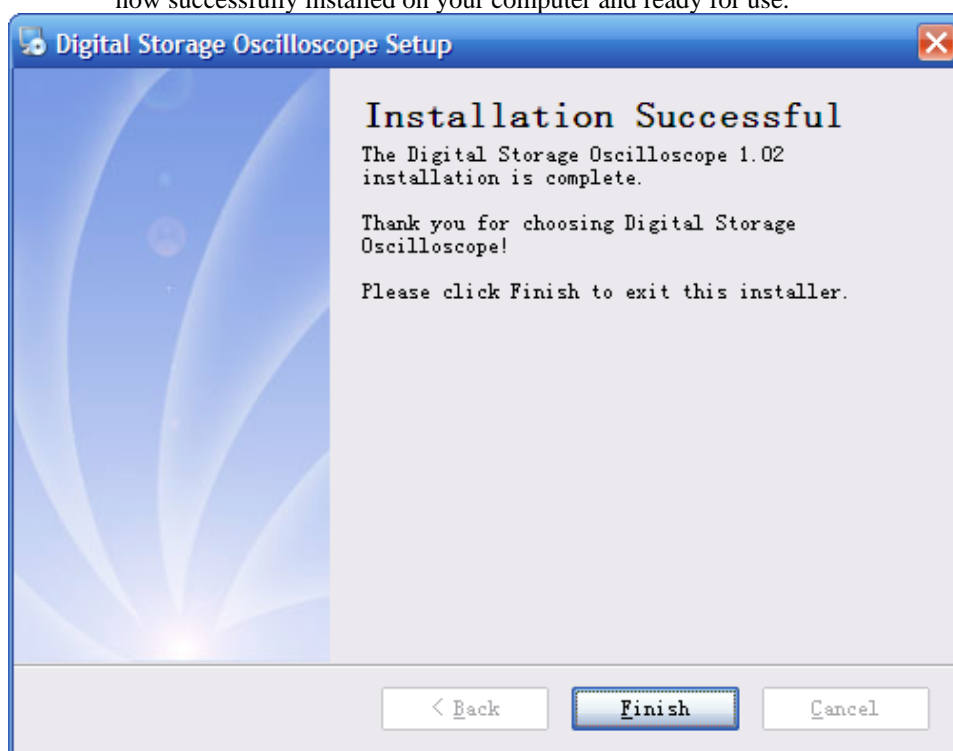

Fig 1-7
Step seven : When automatic installation is complete and the box shown in Fig 1-7 pops up, click the [FINISH (E)] button. Your oscilloscope communication and control software is now successfully installed on your computer and ready for use.